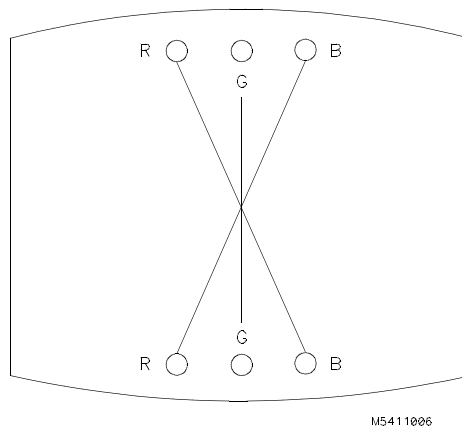

Figure 4-20. Y BOW CROSS Adjustment
3. Adjust the Y BOW CROSS (RV804), located on the bottom of the PC board, to eliminate red, green, and blue orthogonal misalignment at the top and bottom of the center vertical line. See figure 4-20.